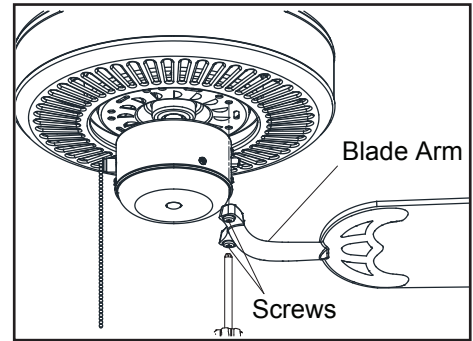

Figure 12
3. Fasten the blade assembly to the motor by inserting the alignment post into the slot of the bottom of the motor and tightening the motor screws. Please note that the motor screws are preattached into the blade brackets. (Figure 12)